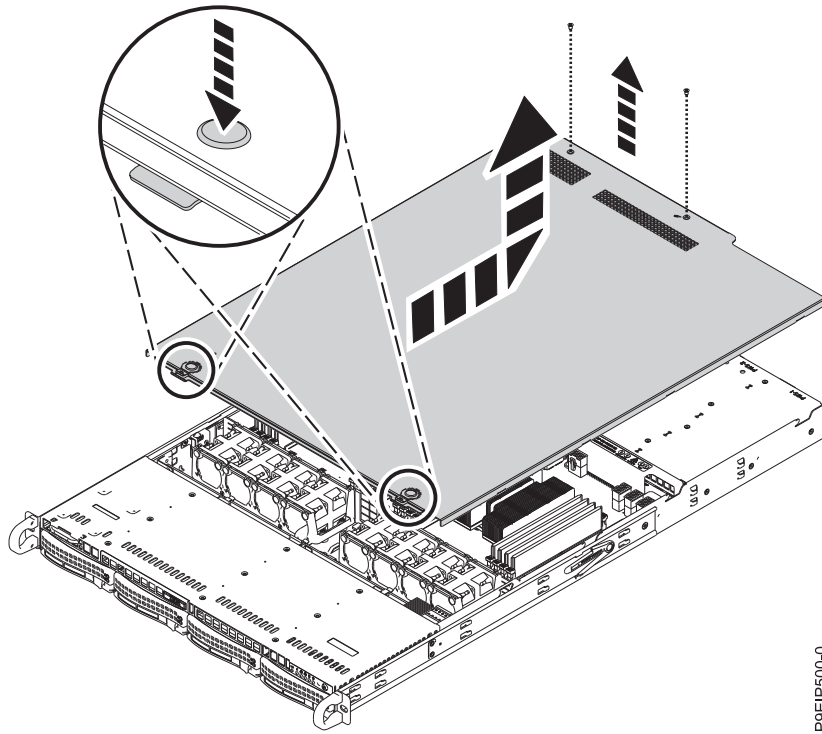

Figure 89. Releasing and opening the cover
2. Remove the two cover screws (1), from the rear of the cover.
3. Press both buttons on the top cover (2) to release the latches as shown in Figure 89, and push the cover back about 0.5 in (1 cm) until it stops. If the buttons do not easily press down, partially remove the drives directly under the buttons.